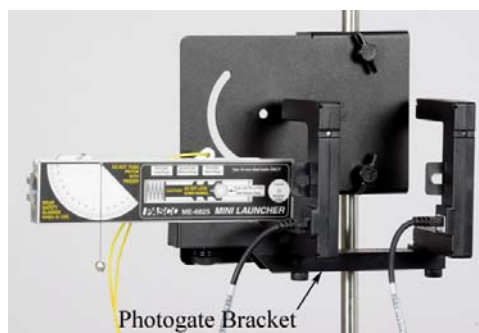

Figure 4: Measuring Launch Speed
1. Remove the launcher from the table and place it on the Rod Stand as shown in Figure 4. Set the angle for zero, horizontal.